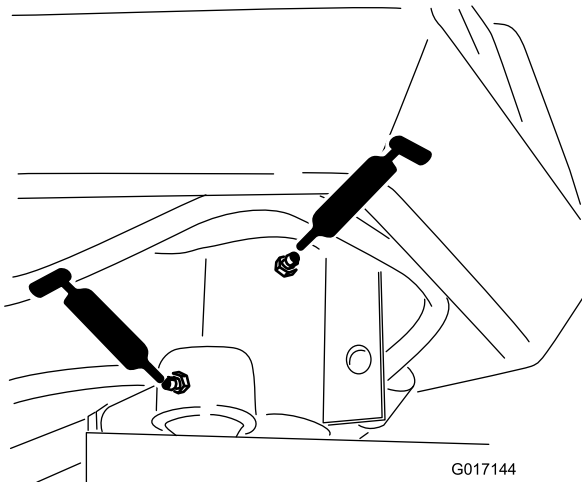

Figure 32
- Steering-fork shaft (1) (Figure 32)
- Steering-cylinder-rod end (Figure 32)